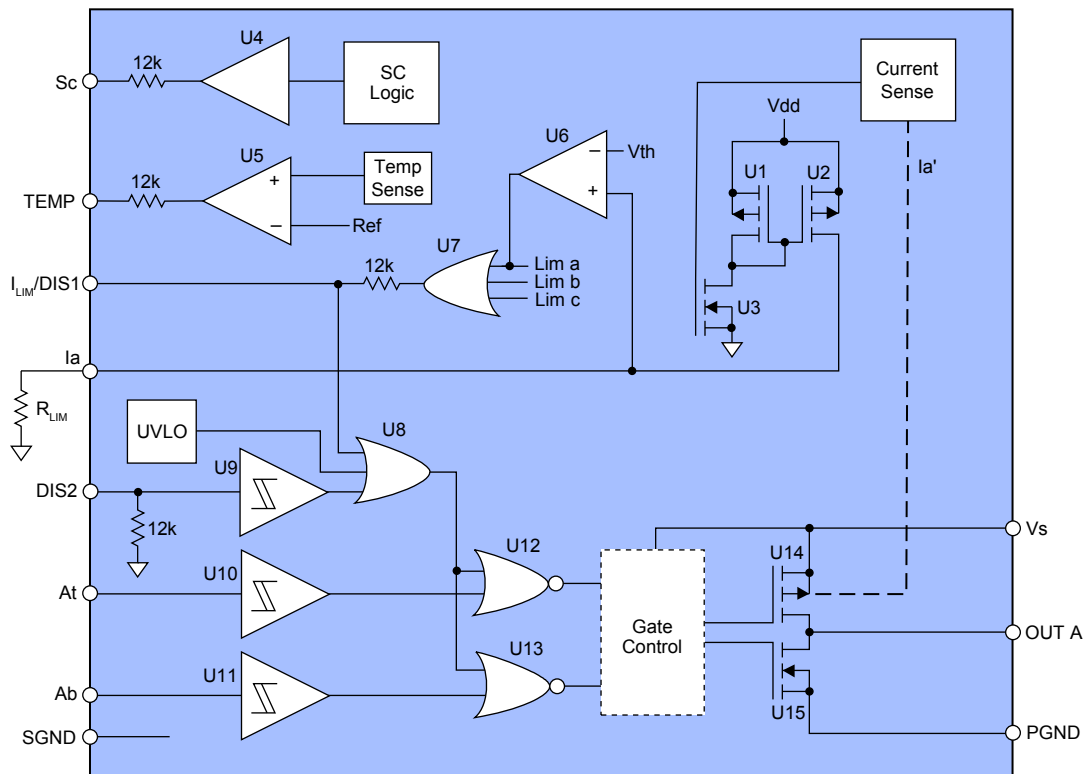

Figure 5. Control and Sense Architecture
As depicted in Figure 5, the output current of the upper output FET U14 for OUT A is continually measured, (The same occurs for the corresponding output FETs for OUT B and OUT C). The output of the current sense circuit is applied to a current mirror comprising U1, U2 and U3 which develops a voltage across the external current limit resistor. This voltage is compared with the current limit threshold by Comparator U6.
Disabling Cycle-by-Cycle Current Limit – The current limit feature may be disabled by pulling the $I_{LIM}/DIS1$ pin to GND. The current sense circuitry identified in Figure 5, will continue to provide top FET output current information.
| DIS2 | 23 | Control | When a HIGH is applied to this Schmitt triggered logic level, it places OUT A, OUT B, and OUT C in a high impedance state. | Pin DIS2 (23) has an internal 12kΩ pull-down resistor connected to ground and therefore may be left unconnected. (See Figure 5.) |
| SC | 3 | Sense | Goes HIGH if a short circuit is detected or an output occurs that is not in accordance with the input commands, | The SC signal is blanked for approximately 200 ns during switching transitions but in high current applications, short glitches may appear on the SC pin. A high state on the SC output will not automatically disable the device. The SC pin includes an internal 12kΩ series resistor, as shown in Figure 5. |
| TEMP | 25 | Sense | Goes HIGH if the SA306 die temperature reaches approximately 135°C. | This pin WILL NOT automatically disable the device. The TEMP pin includes a 12kΩ series resistor. See Figure 5. |